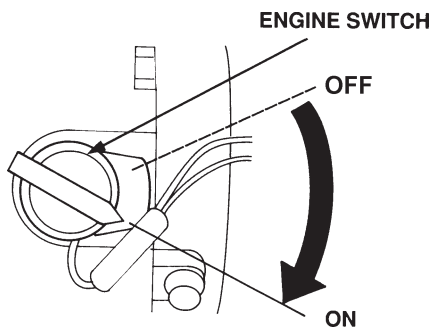

Figure 15. Engine ON/OFF Switch
- Turn the engine switch (Figure 15) to the ON position.